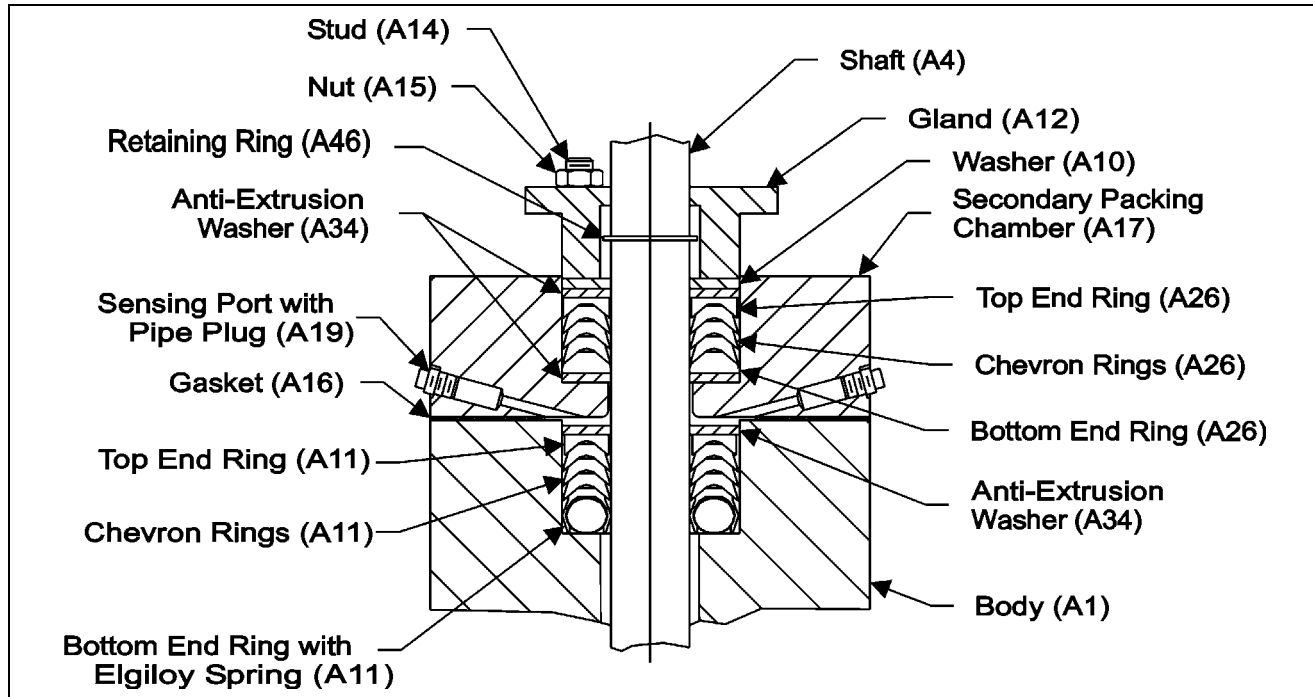

Figure 4 – Packing Option (TMD)
- Place the primary (lower) set of new packing (A11) and anti-extrusion washers (A34) in the body, one ring at a time, as shown in Figure 4—do not lubricate.
- Place the new gasket (A16), the secondary packing chamber (A17) and the new secondary packing (A26), one ring at a time, in the configuration shown in Figure 4—do not lubricate.